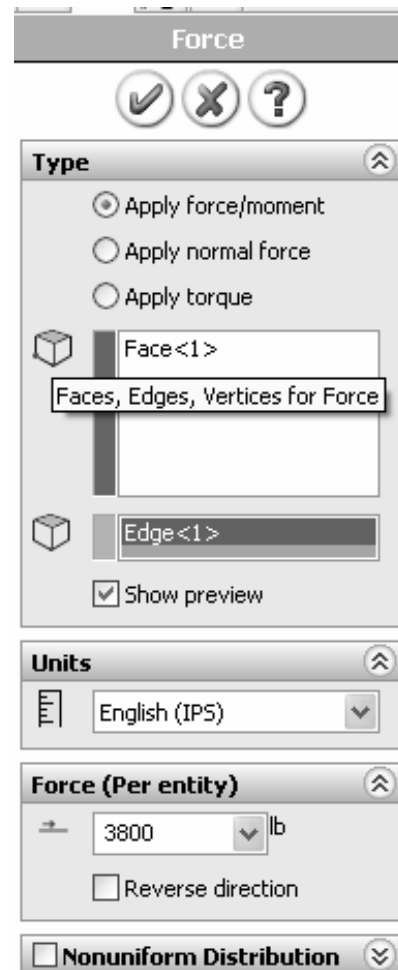

Figure 11 – Specifying a force and its direction on the hole bottom.
1. In the COSMOSWorks manager, right-click the **Load/Restraint** icon and from the pop-up menu select **Force...** A partial view of the **Force** property manager appears in Fig. 11.